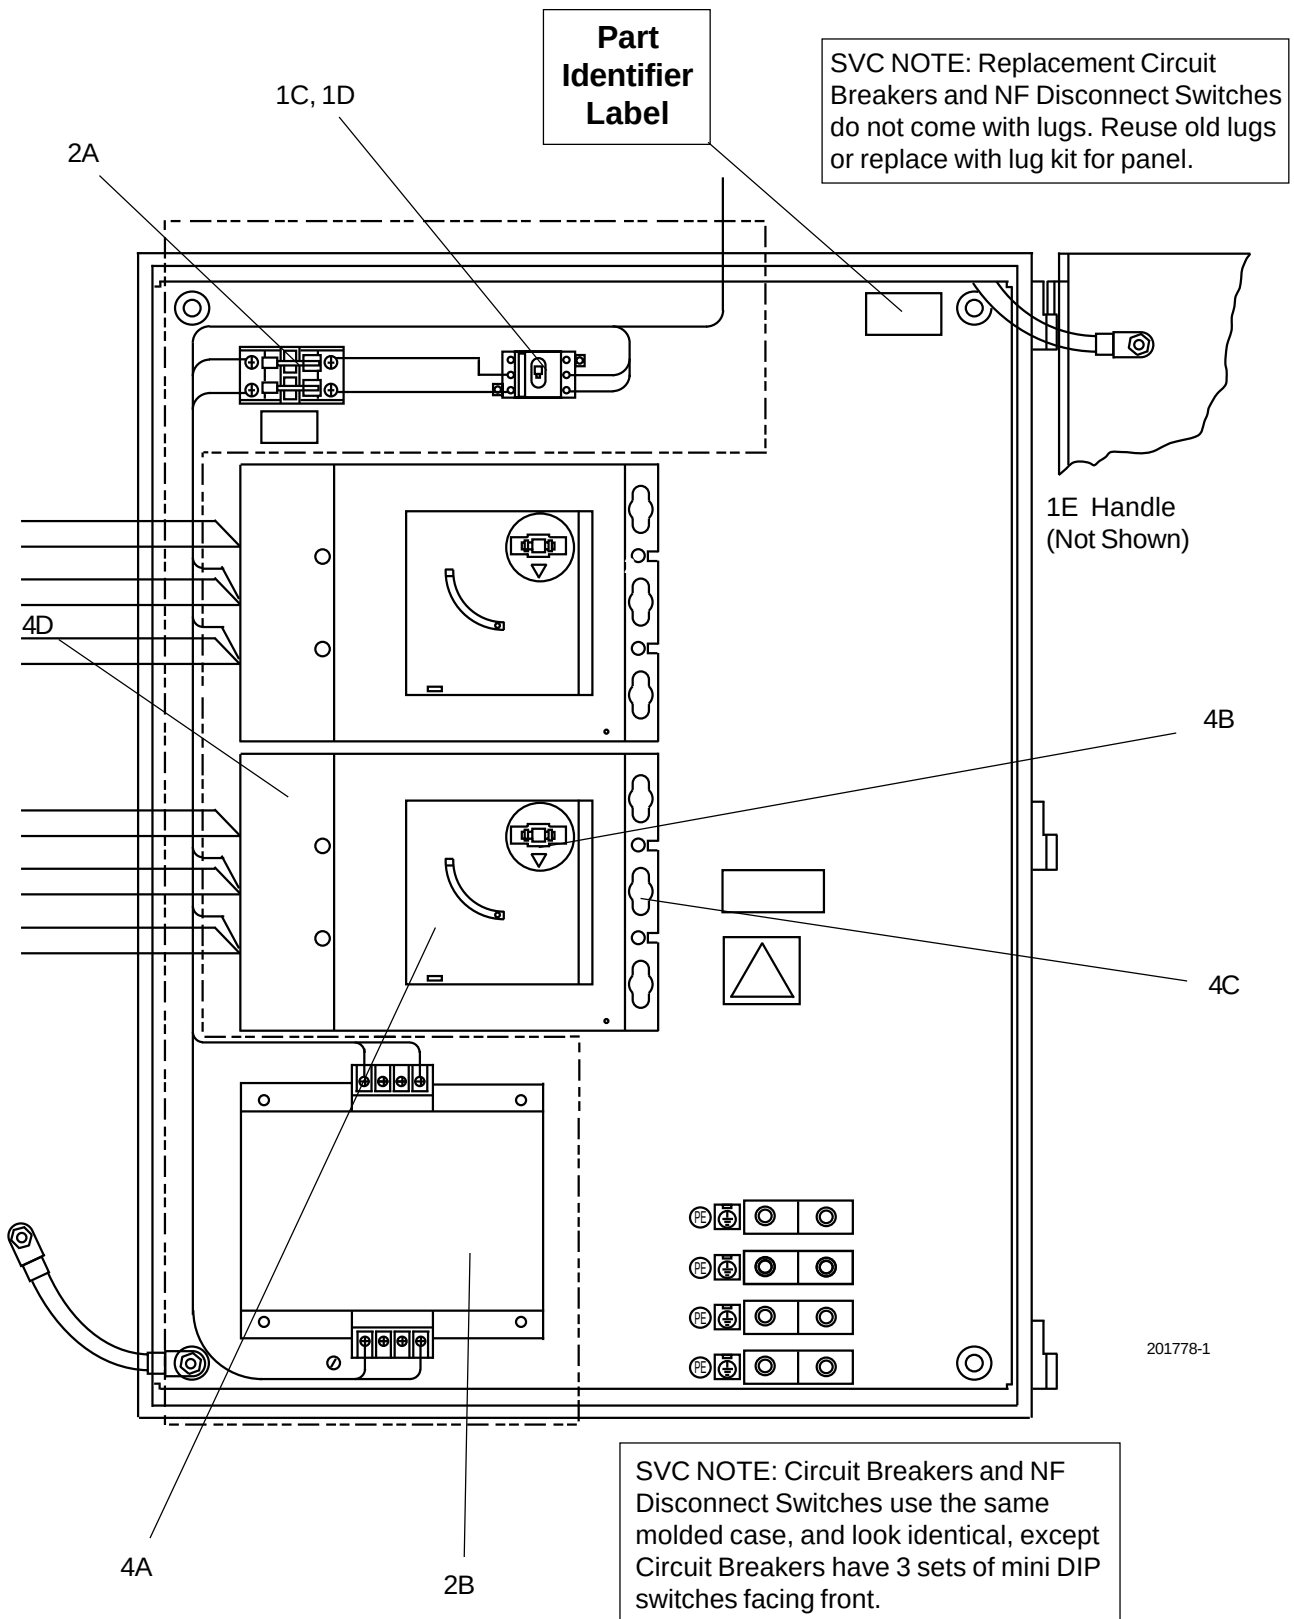

FIG. 24 – OPTION PANEL SHOWN WITH CIRCUIT BREAKER OR NON-FUSED DISCONNECT SWITCH (REF. TABLE 19, PAGE 48)
TABLE 18 – OPTION PANEL IDENTIFIERS (TO IDENTIFY REPLACEMENT PART NUMBERS, SELECT PANEL IDENTIFIER NUMBER BELOW, THEN REFER TO HIGHLIGHTED ROW ON TABLE 19, AND FIGS. 24 AND 25 ON PAGES 49 AND 50)
*** Note:** To locate Option Panel Identifier, See FIGURES 24 and 25 for Part Label location.
TABLE 19 – OPTIONS PANEL COMPONENTS (SEE FIGS. 24 AND 25, PAGES 49 AND 50)